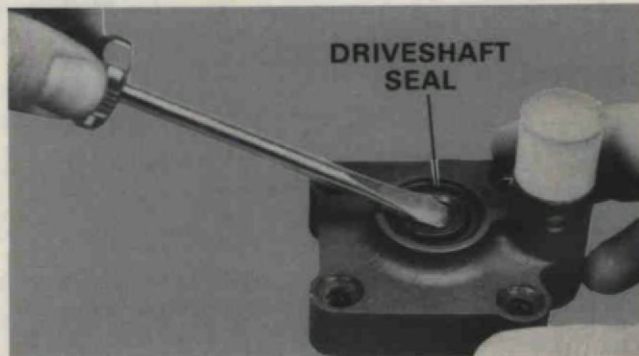

Figure 46. Removing Driveshaft Seal.
- Remove driveshaft seal. Figure 46.